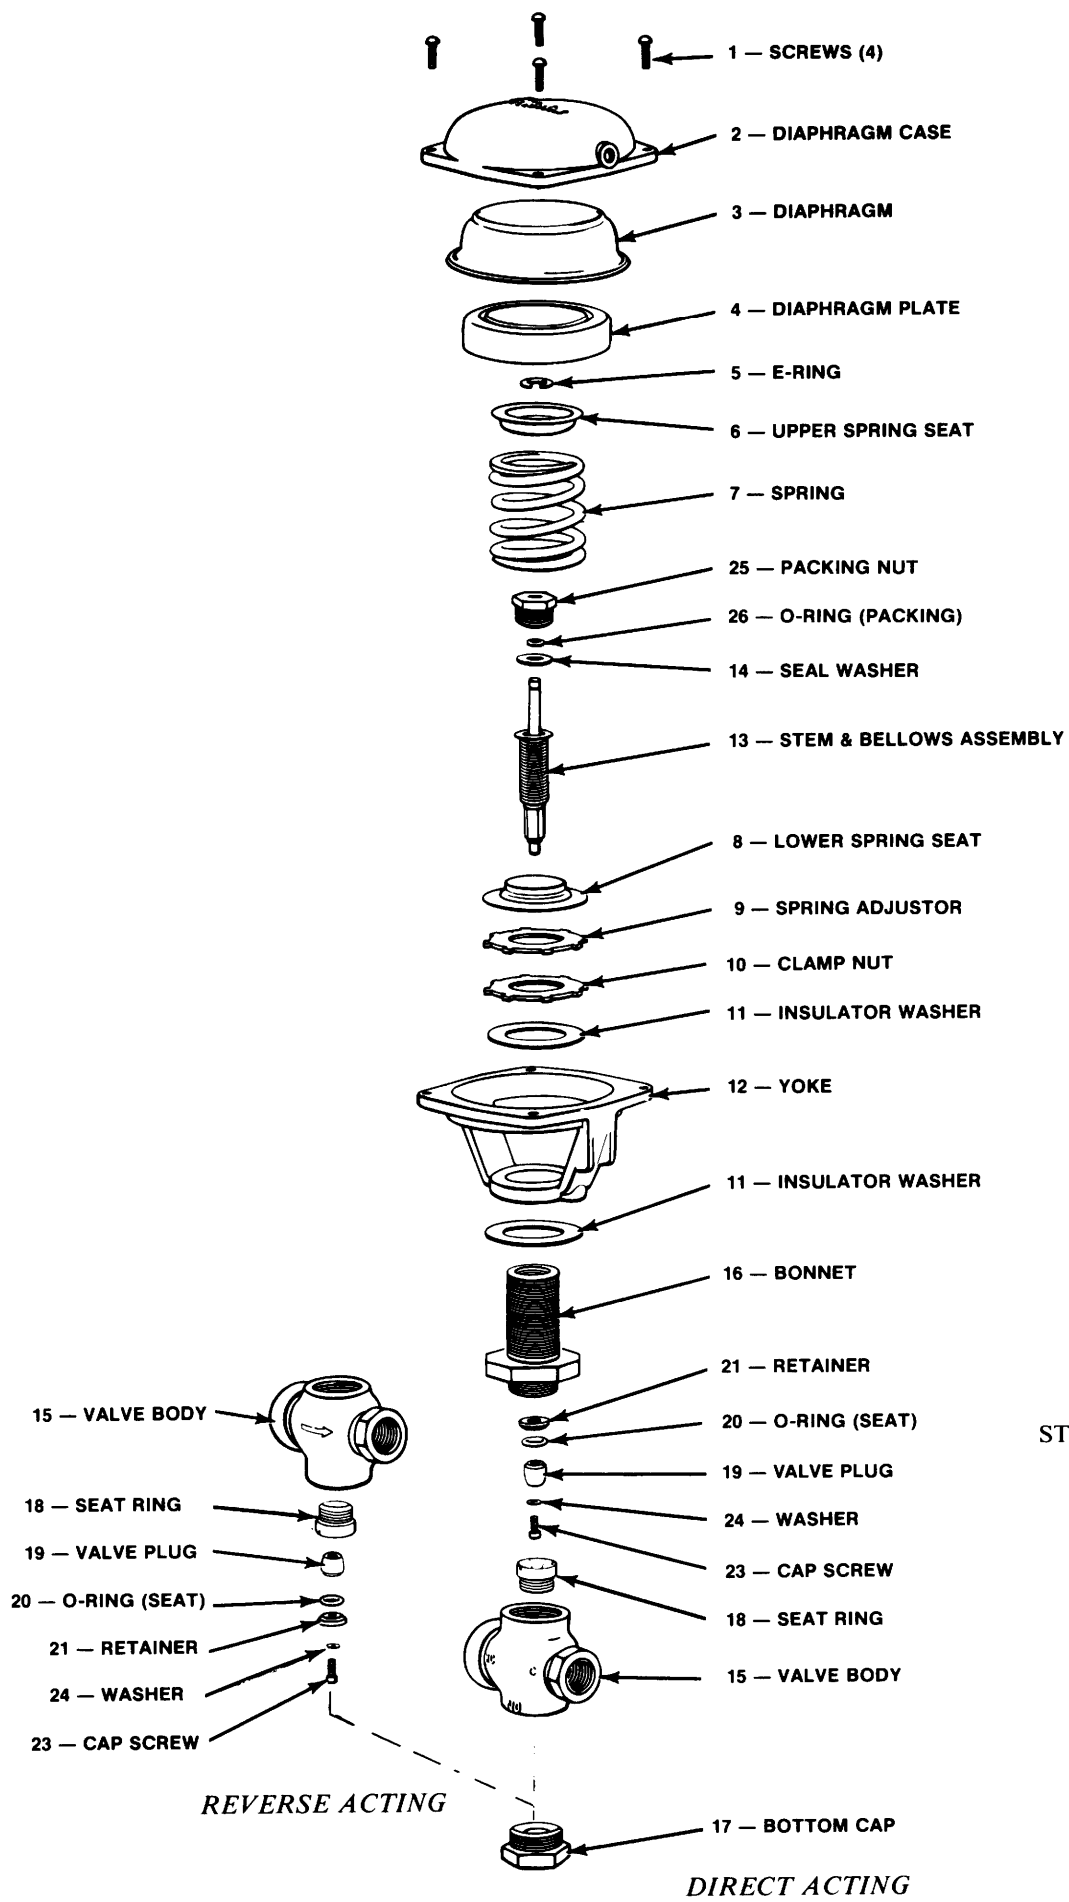

FIGURE 7
E. REPLACEMENT OF PRIMARY BELLOWS SEAL OR VALVE PLUG (Figure 7)
PARTS LIST FOR FIGURE 7, STYLES BJ, BJR, BL, BLR